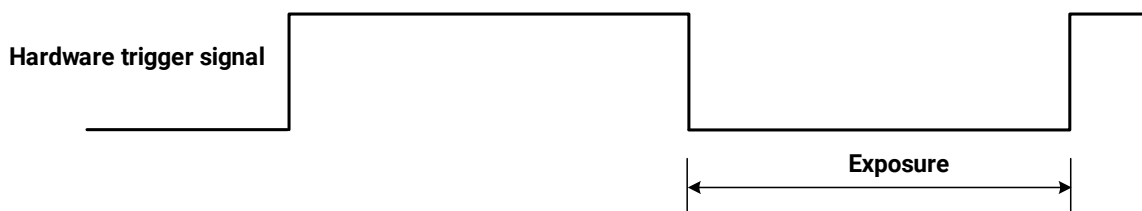

Figure 8-27 The sequence diagram in falling edge trigger of TriggerWidth exposure mode
- If falling edge triggering is enabled, exposure starts when the trigger signal falls and continue until the trigger signal rises, as shown in Figure 8-27